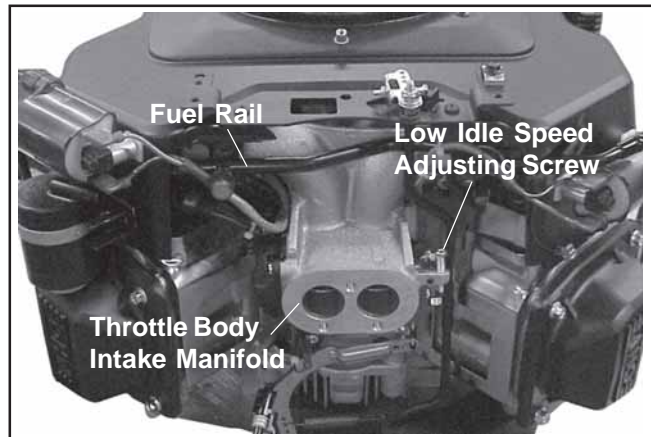

Figure 24. EFI Throttle Body Manifold.
3. Turn the low idle speed adjusting screw in or out and check RPM with a tachometer. See Figure 24.